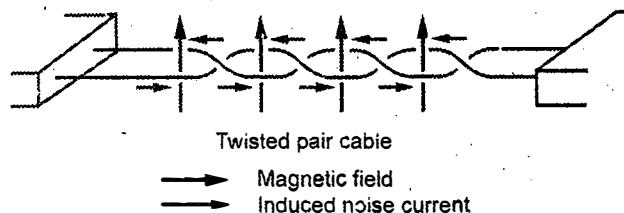

Fig. Q.2.2 Data communication in RS485
- RS485 is currently a widely used communication interface in data acquisition and control applications where multiple nodes communicate with each other. The communication media used is twisted pair of wires to reduce the effects of noise and avoid malfunctioning in selection of node as shown in Fig. Q.2.2.